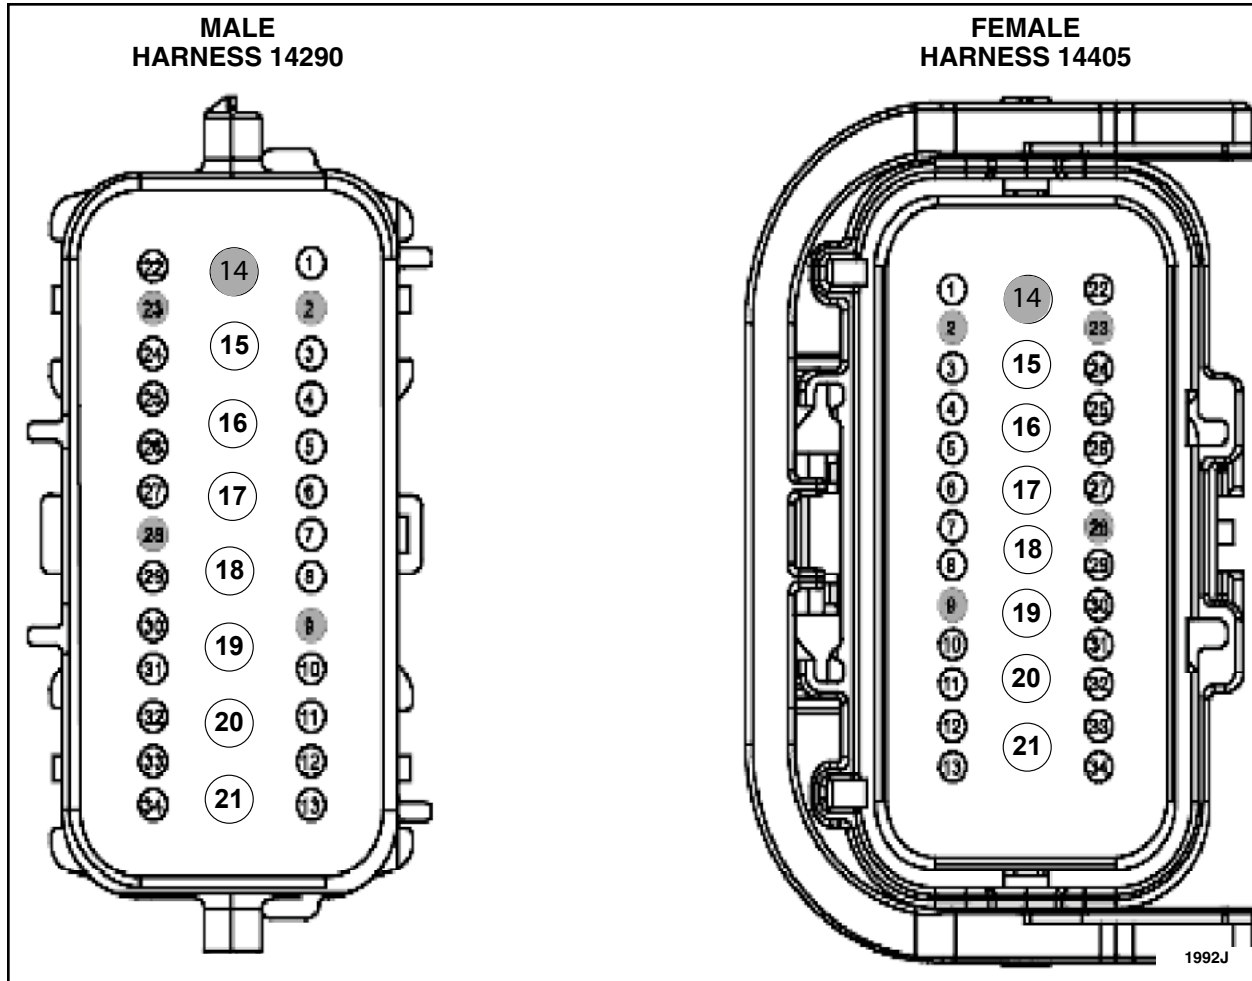
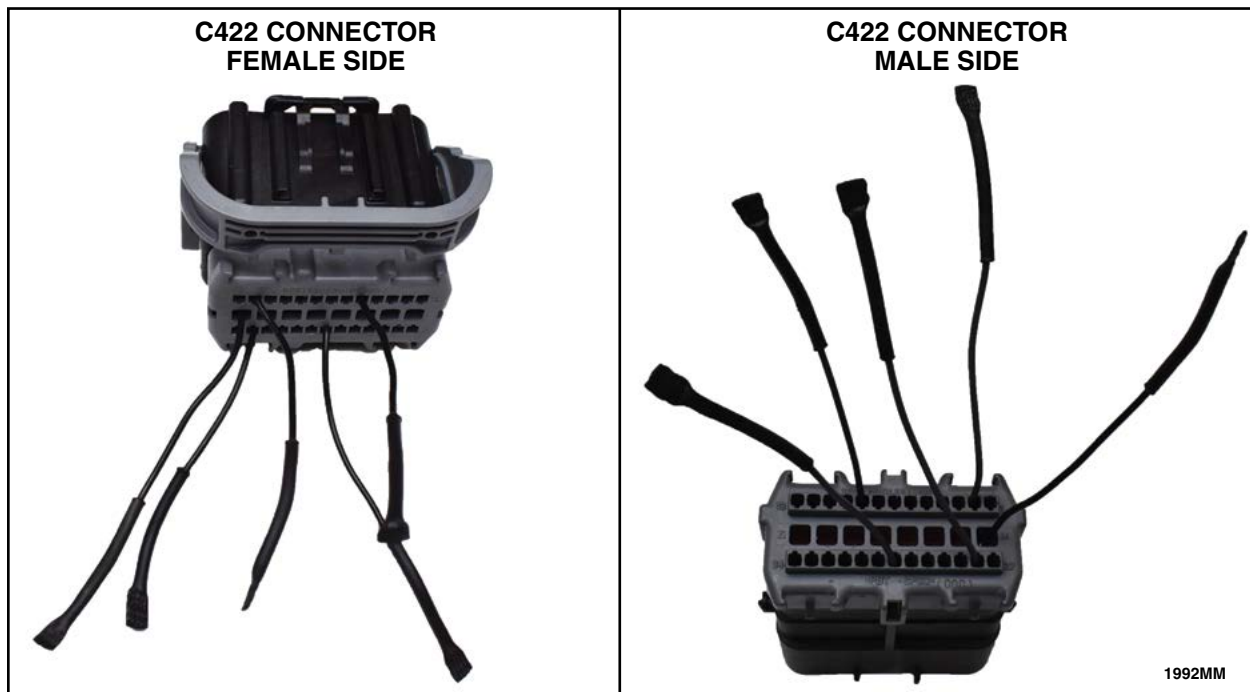

FIGURE 11
FIGURE 20
13. At connector C422, using your fingers pull on the remaining wires in the center row of terminals wires (cavities 14-19 and 21) on both male and female connector sides, checking for any terminals that may be push out of the connector hard shell. See Figures 11, 12 and 13.
- Using Rotunda™ Terminal Release Tool (NUD900-001), release and remove all pin terminals from the *new* C422 pigtail connector **Except** for cavities 2, 9, 14, 23 and 28. See Figures 22-24 and/or 27-29. Refer to Figures 11 and 12 for connector details.
- Measure and cut all five (5) wires, still remaining in the new pigtail connector, to 3 in. (76.2mm) in length.
- Position a heat shrink tube over the end of all five (5) wires. See Figure 20.
- One wire at a time, use a suitable heat gun, such as Rotunda Shielded Flameless Heat Gun with Heat Deflector (NAIAT-R5902), that is equipped with a shrink tubing attachment, to heat the heat shrink tubing until the sealant comes out of both ends, then with a pair of needle nose pliers pinch the end of the heat shrink tube to seal the wire end. See Figure 20.
3. Using Rotunda™ Terminal Release Tool (NUD900-001), release, remove and install each pin terminal one at a time from the original/damaged connector shell into the *new* connector shell. Then reinstall the white pin terminal locking tab. See Figures 11, 12, 22-24.